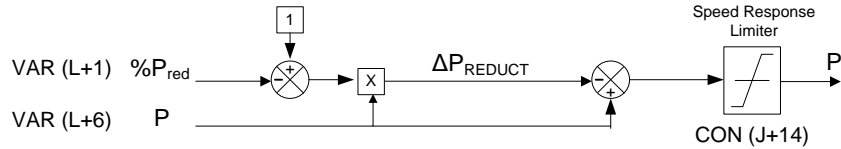

Figure 9. Block diagram for power reduction and ramp limit
The model allows decreasing the power output by means of the application of a power reduction order, as represented in Figure 9. The power reduction order is applied in p.u. For example, if the order is 0.2 pu, the power is reduced to 20% of the actual active power produced by the PV Panel (P). The step change produced by the power reduction order, and also the changes in the output of the PV Panel, are limited by a ramp that fixes a maximum rate of change of active power per time unit. This is the only configurable parameter of this block.